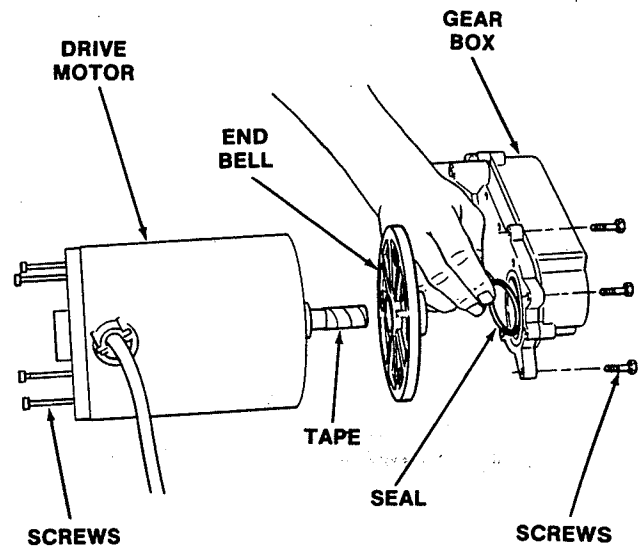

Figure 68. Gear Box and Seal
9. Position the gear box onto the drive motor by inserting the splined driveshaft into the gear box and installing the four fastening screws. Tighten securely. (See Fig. 68.)